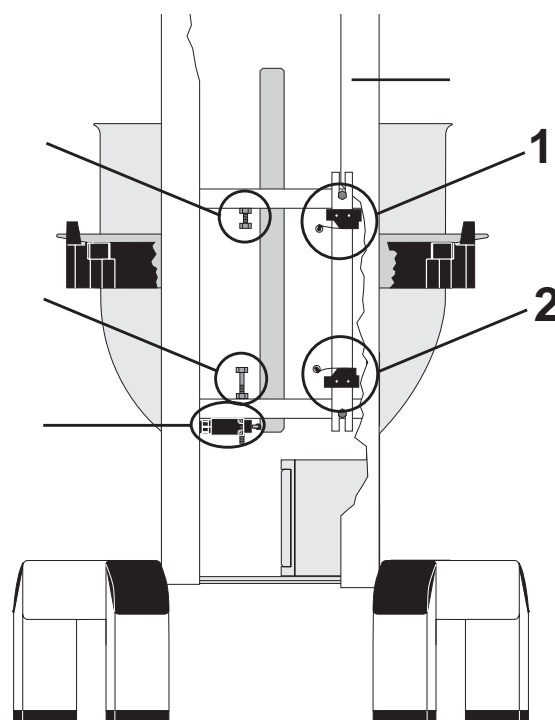

Fig. 2
The upper and lower position of the bowl is determined by micro switch (1) and (2) (**Fig. 2**).